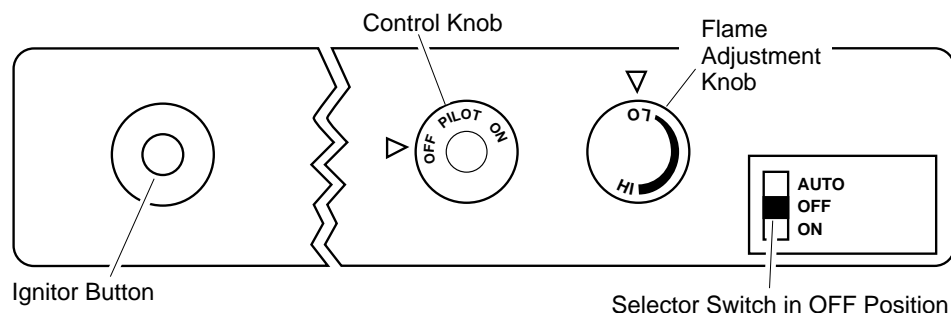

Figure 20 - Control Knob and Ignitor Button Location
4. Press in and turn control knob clockwise  to the OFF position (see Figure 20).
5. Wait five (5) minutes to clear out any gas. Then smell for gas, including near the floor. If you smell gas, **STOP!** Follow "B" in the safety information in column 1. If you don't smell gas, go to the next step.
6. Press in and turn control knob counterclockwise  to the PILOT position. Press in control knob for five (5) seconds (see Figure 20).